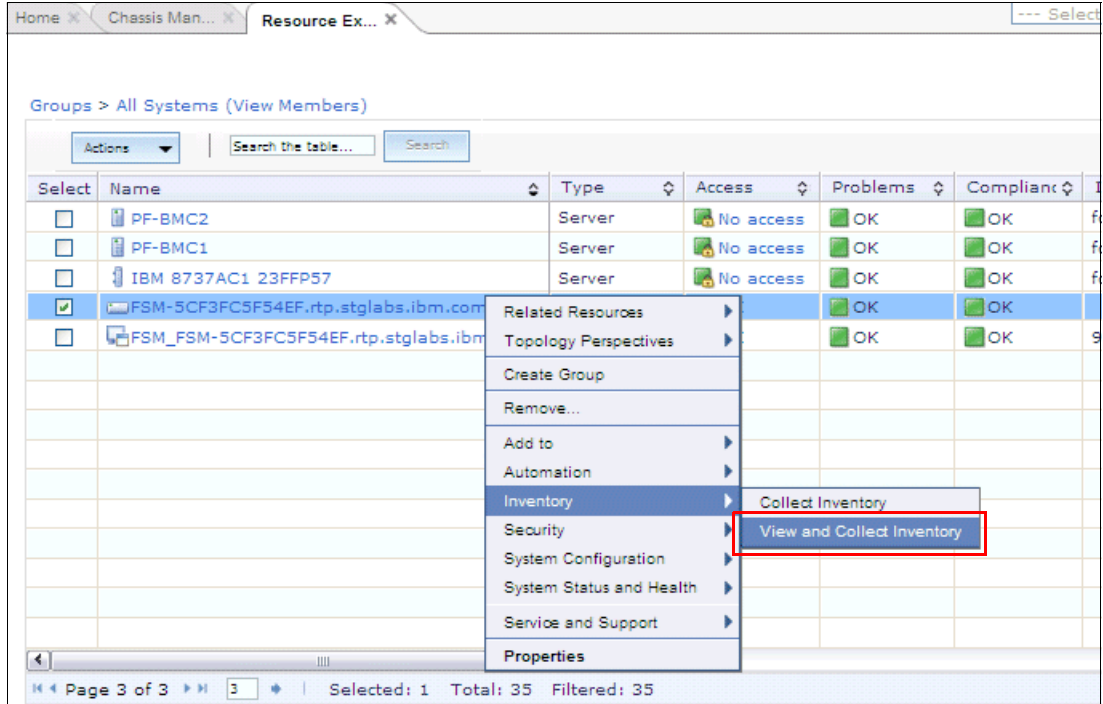

Figure 6-141 View and Collect Inventory on Storage Farm object
2. Collect inventory on V7000 storage by clicking **Inventory** → **View and Collect Inventory** as shown in Figure 6-141.